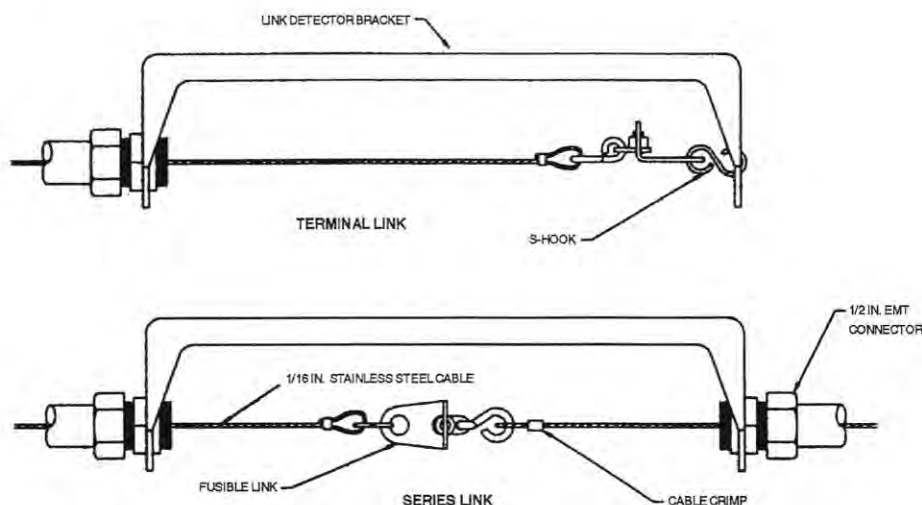

Figure 2-10. Model FLK-1 Fusible Link
- ▶ The Model FLK-1 fusible link kit includes a 10 in. steel bracket, two (2) 1/2 in. EMT connectors, two (2) cable crimps, and two (2) "S" hooks. Fusible links must be ordered separately. See Figure 2-10.
- ▶ The Model FLK-1A fusible link kit includes an 8 in. steel bracket, two (2) 1/2 in. EMT connectors, two (2) cable crimps, and two (2) "S" hooks. Fusible links must be ordered separately.